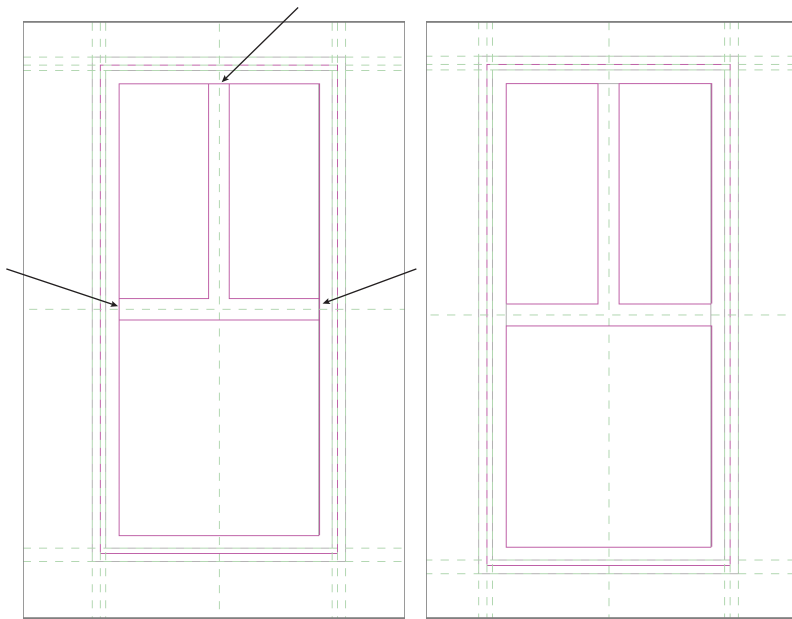

FIGURE 6.36 Editing the existing window frame
6. Select Frame/Mullion Extrusion, and click Edit Extrusion from the ribbon. Sketch new internal lines, as shown in Figure 6.36, to split the window into three panels. Before you finish the sketch, delete the sketch segments between the new lines, as indicated in Figure 6.36, using the Split tool with the Delete Inner Segment option checked located on the lower panel of the ribbon.